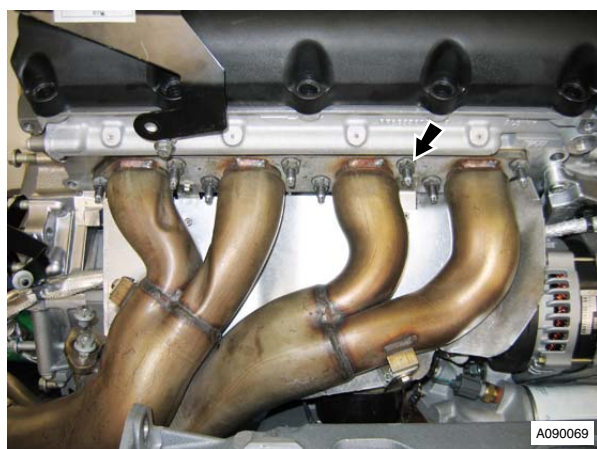

Figure 1
- Remove nut (x8) securing RH exhaust manifold to cylinder head (refer to Fig. 1).